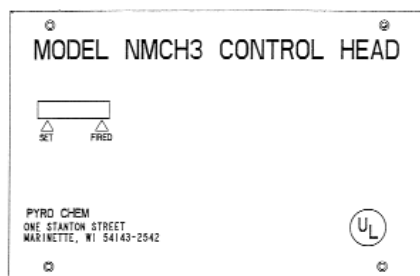

Figure 2-6a. Mechanical Control Head.
The Model NMCH3 Mechanical Control Head is a fully mechanical control head which can be connected to the PCI-15/25s/35/50s/70 cylinder valve. This control head will support a fusible link detection system, a remote mechanical pull station (Model RPS-M), and a mechanical or electric shut-off valve. A micro switch (Model MS-SPDT, MS-DPDT, MS-3PDT, or MS-4PDT) can be ordered separately and field installed. There is no local manual actuation for the Model NMCH3. The Model NMCH3 control head can actuate a maximum of five (5) cylinders. See **Figure 2-6a**.